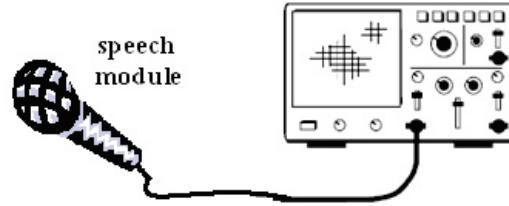

Figure 5: Speech module.
- Locate the speech module on the kit that contains a microphone (Figure 5). Connect its output to Ch-1.